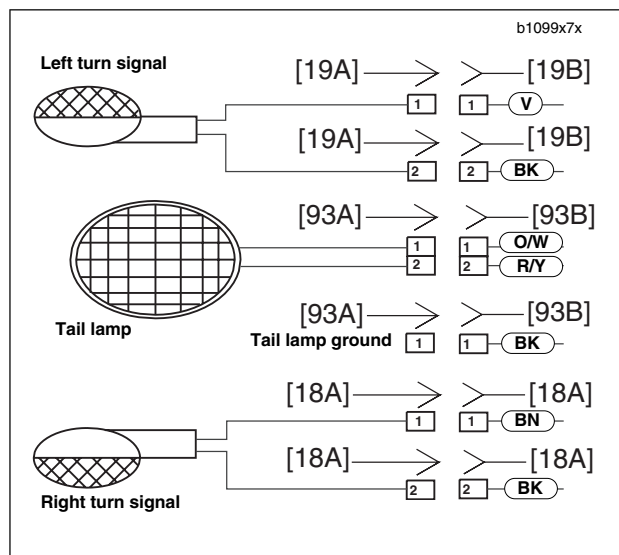

Figure 7-57. Rear Turn Signal Connections
- Attach bullet connectors on turn signal wires as shown in Figure 7-57.
- See Figure 7-57. Insert bullet connectors through center tail section.